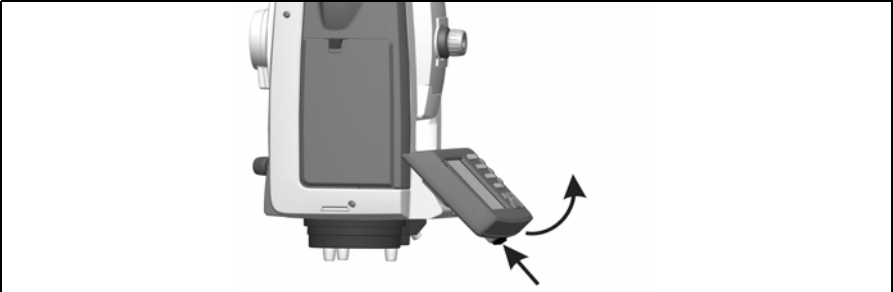

Figure 3.4 Unlocking the controller from the instrument
2. Push the lock release button at the bottom of the controller and then lift the bottom of the controller away from the instrument. Figure 3.4.